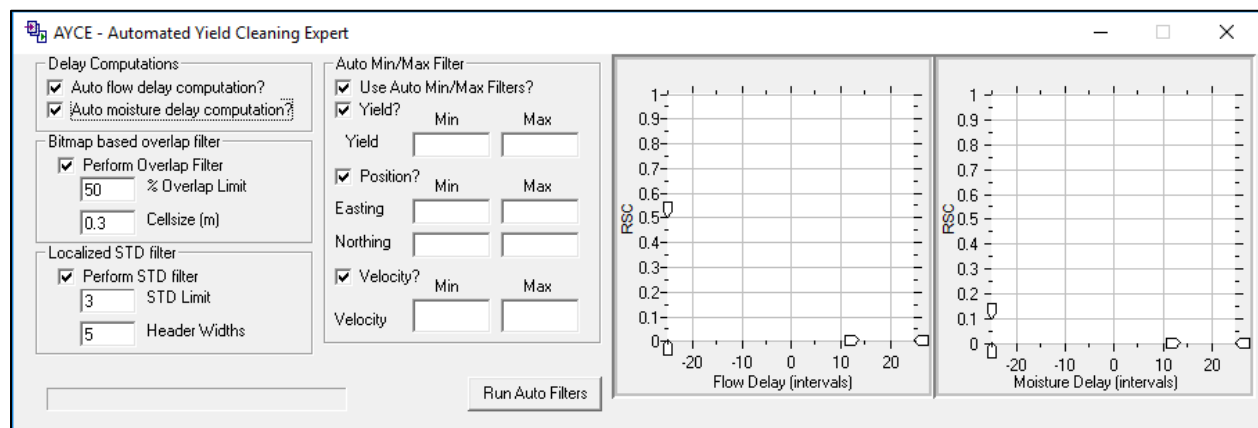

Figure 12. Default settings for AYCE.
- Once all the data points appear in the map window, go to a separate window called "AYCE – Automated Yield Cleaning Expert". Select all of the checkboxes in AYCE window as shown in Figure 12 and hit 'Run Auto Filters' to run AYCE with default settings.